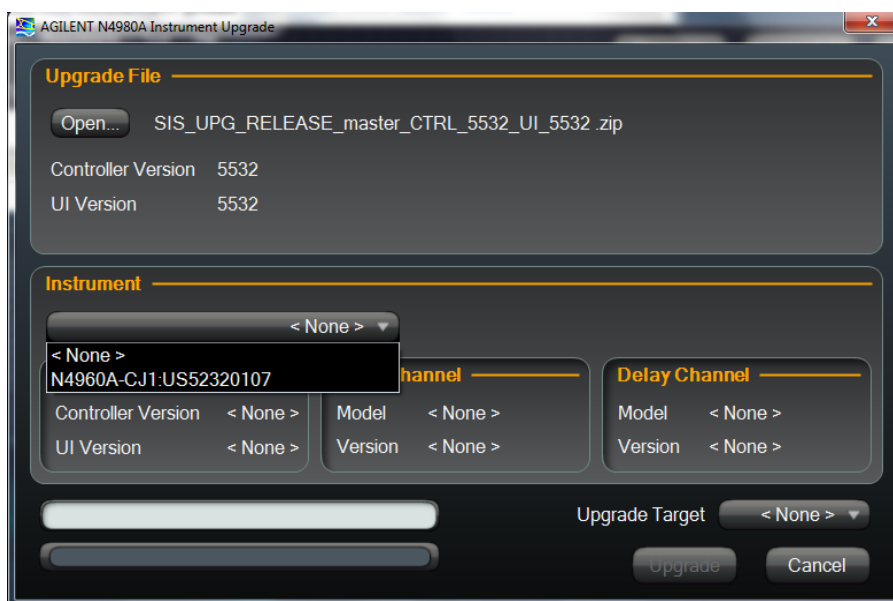

Figure 100. Select instrument
- Under **Instrument**, click on the drop down list box and select the instrument to be upgraded as shown in Figure 100.